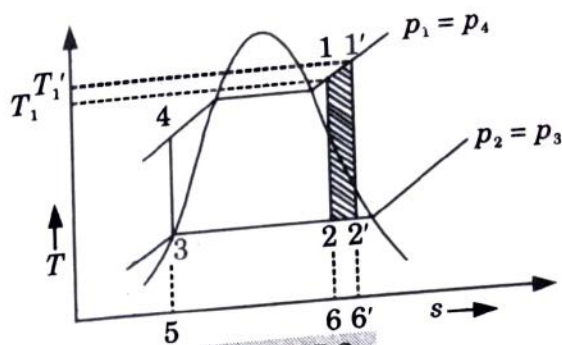

Fig. 2.5.2.
- From the given Fig. 2.5.2, it is clear that increase in inlet temperature from T_1 to T_1' (Let $T_1 < T_1'$) increases net work and heat addition.